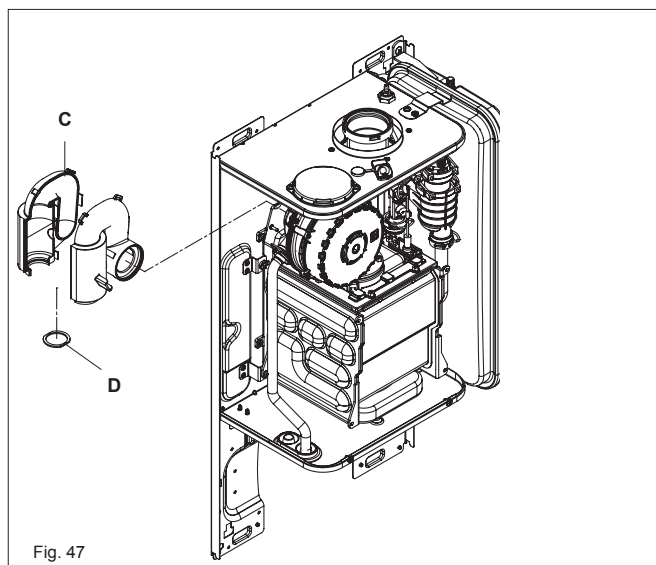

Fig. 47
- Replace if necessary the flange (D) on the silencer (C) loosening the two part (fig. 47)